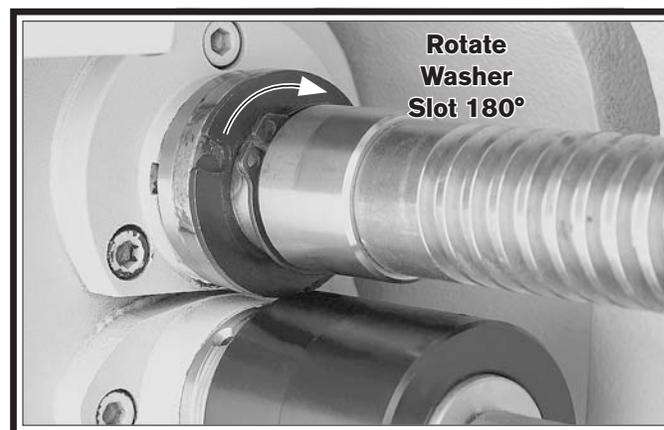

Figure 137. Shroud washer positioning.
10. With the pin completely seated in the bore and the head flush with the leadscrew shoulder, slide the shroud washer against the shoulder, then rotate the washer 180° to completely cover the head of the shear pin, as shown in **Figure 137**.